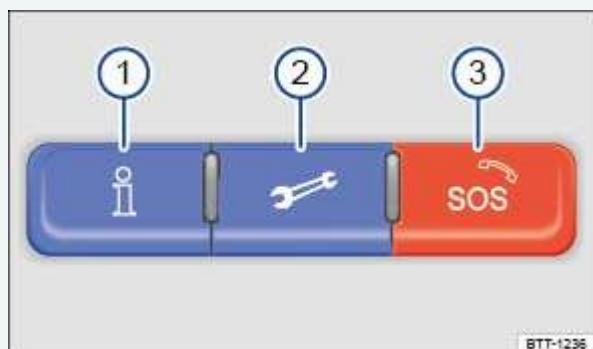
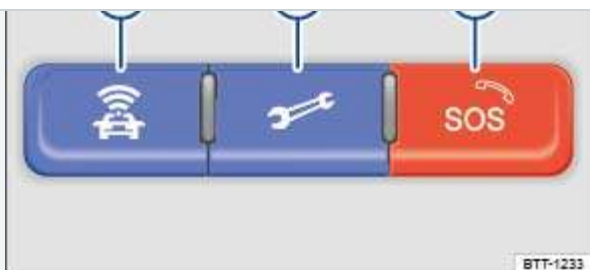

Fig. 21 In the roof console: 3-button module to access VW Car-Net service operators (Version 1).
Fig. 22 In the roof console: 3-button module to access VW Car-Net service operators (Version 2).
You can access VW Car-Net Security & Service via your VW Car-Net iPhone® or Android® app (text and data rates apply) and the VW Car-Net Security & Service website (<http://www.vw.com/carnet>). If you have a question or would like to subscribe, please either press the ⇒ Fig. 21 or ⇒ Fig. 22 button in your vehicle or contact the VW Car-Net Response Center at 1-877-820-2290. For more information or to log on to your VW Car-Net Security & Service account, visit <http://www.vw.com/carnet>.
The Manual Emergency Call service and all other VW Car-Net Security & Service features require a trial or paid subscription. To begin your trial or paid subscription, authentication and activation are required. For more information, please visit the website (<http://www.vw.com/carnet>), press the ⇒ *Fig. 21*① or ⇒ *Fig. 22*① button in the 3-button module in your vehicle or contact the VW Car-Net Response Center at 1-877-820-2290.
⇒ Fig. 21 or ⇒ Fig. 22